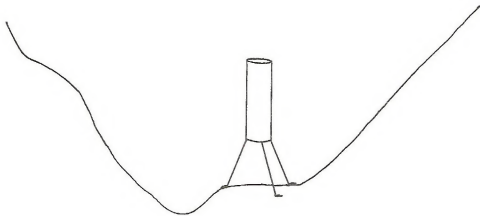

Figure 4. Even a little protection helps.
4. Small canyons and draws are better than no protection at all, but should be avoided if possible. (Figure 4)